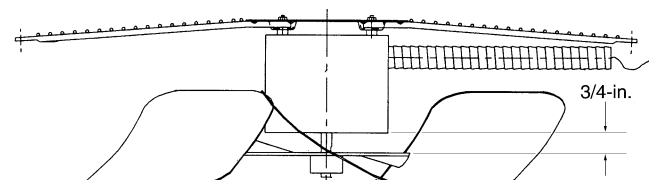

Fig. 34 — Condenser-Fan Adjustment
VI. CONDENSER-FAN ADJUSTMENT (Fig. 34)
3. Adjust fan height as shown in Fig. 34.